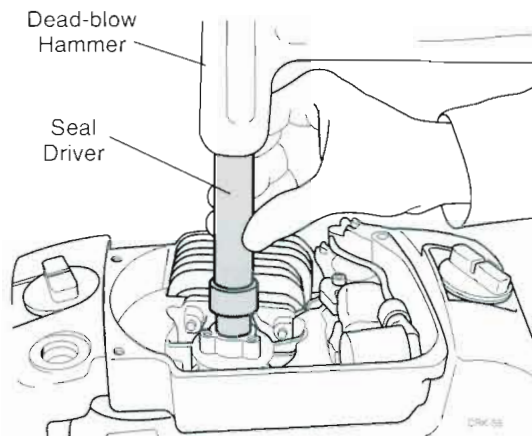

Figure 8.23 Seal Installation
STEP 2. Install the new seals. Using the appropriate seal driver (see Appendix, *Special Tools*) and a dead-blow hammer, install and seat each seal to the depth allowed by the seal driver (Figure 8.23).